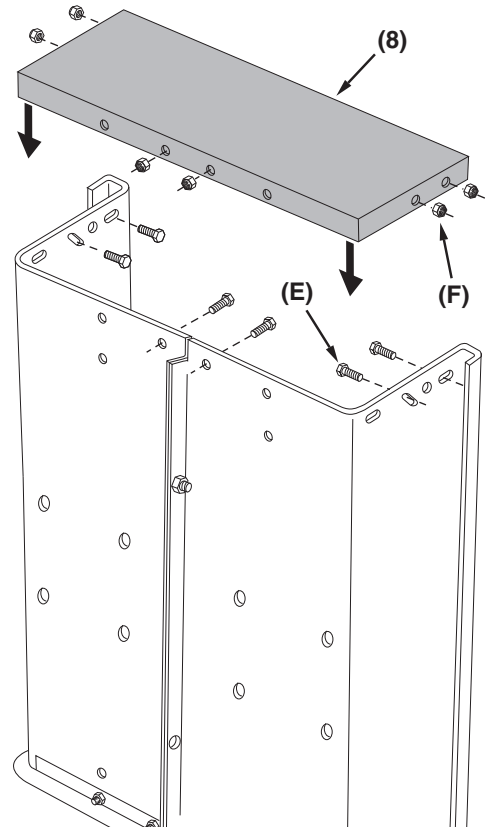

Figure 11
**STEP 11 (SEE FIGURE 11):** Attach the front panel (8) to the front of the cart bed using six 1/4" x 3/4" hex bolts (E) and 1/4" nylock nuts (F).